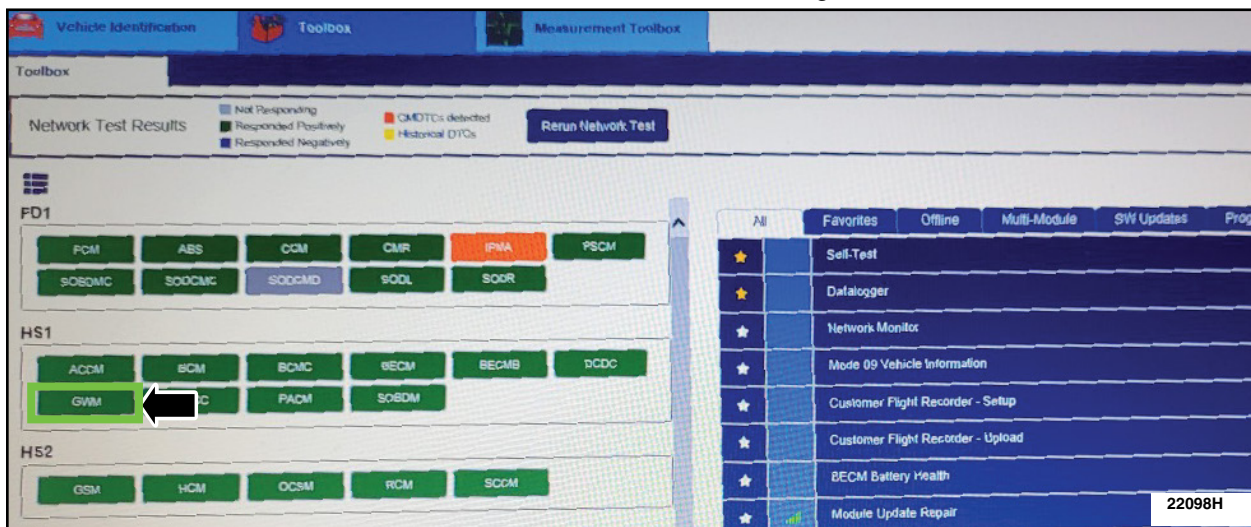

FIGURE 3
7. From the list on the LH side of the screen, select the GWM. See Figure 3.